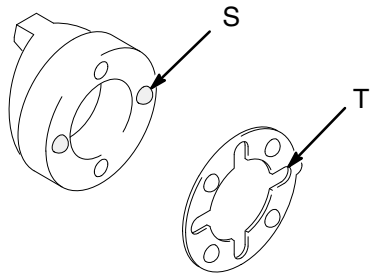

Fig. 20
6. Trigger the gun while you install the fluid nozzle (19) with the nozzle wrench (P).
7. Install the spring (25), detent plate (26), air cap (27), and air cap retaining ring (29). Be sure to properly align air cap detents (S) with the slots (T) in the detent plate. See Fig. 20.